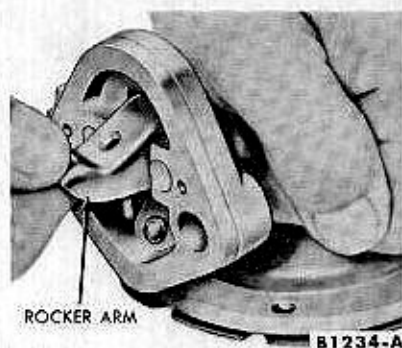

FIG. 9—Fuel Pump Diaphragm Removal or Installation
7. Press the diaphragm into the fuel pump body and pull the rocker arm out to unhook the rod from the rocker arm link (Fig. 9).
1. Position the fuel pump diaphragm assembly into the pump body. Then apply pressure on the diaphragm spring so that the rocker arm can be hooked on the rod as shown in Fig. 9.